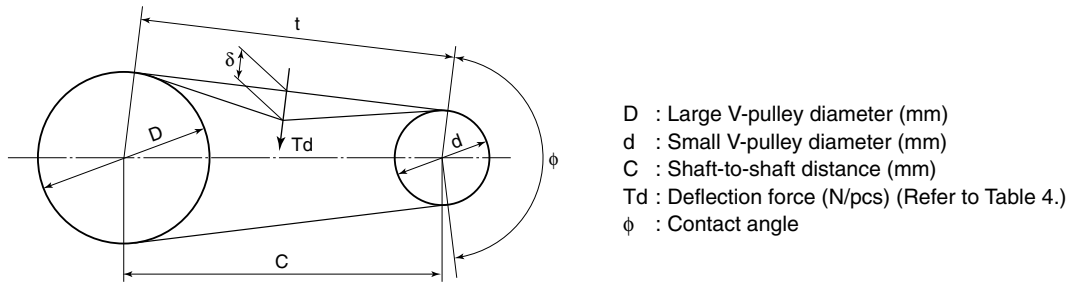

Fig. 4
- (b) Obtain the center of t , apply a perpendicular load to the V-belt at this center point, and obtain the deflection force T_d (N) where the deflection amount δ at that point is the following value.
- $$\delta = 0.016 \times t \text{ (mm) (Refer to Fig. 4.)}$$
- (c) Obtain the deflection force T_d (N) for each belt, and **adjust the belt tension** so that the average value enters the range of the values given in Table 4.
- (4) Select the gear-ratio so that the contact angle ϕ of the belt and pulley is 140° or higher. (Refer to Fig. 4.)